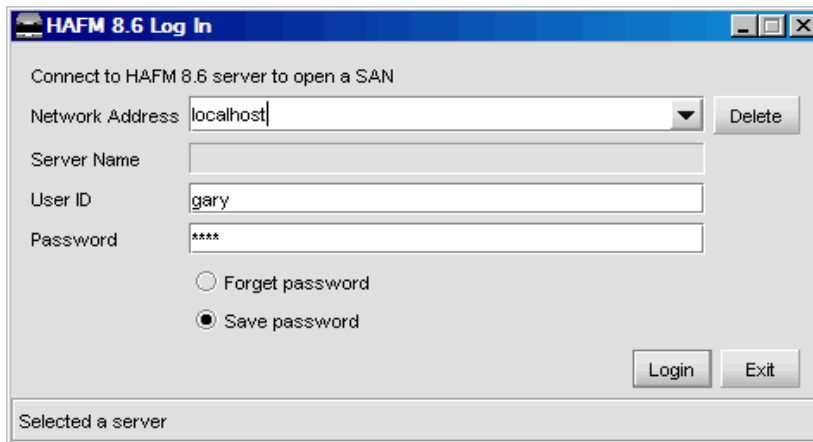

Figure 3 HAFM Log In dialog box
1. The HAFM Log In dialog box displays automatically when you open the application (see Figure 3).
You are logged out of the current appliance and the HAFM Log In dialog box displays (Figure 3). Refer to “Logging into HAFM” on page 25 for instructions on logging in to a new appliance.
The HAFM Log In dialog box appears (Figure 3).